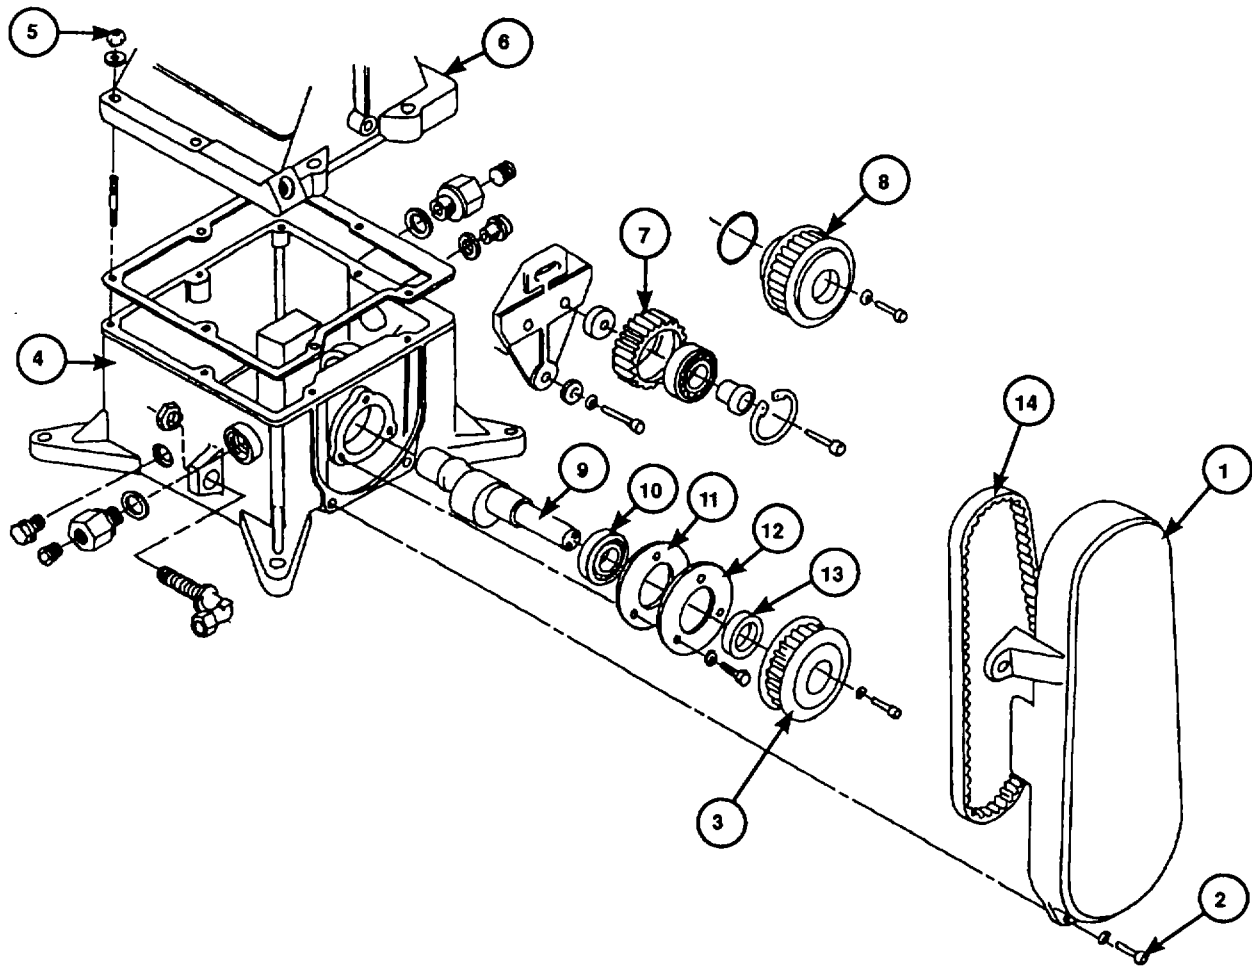

Figure 5-3. Lower Crankcase
1. Remove the four allen head bolts (2) from the oil pump timing belt cover (1) (figure 5-3).
2. Remove timing belt adjusting pulley (7) and the crankshaft pulley (3). Remove oil pump belt (14).